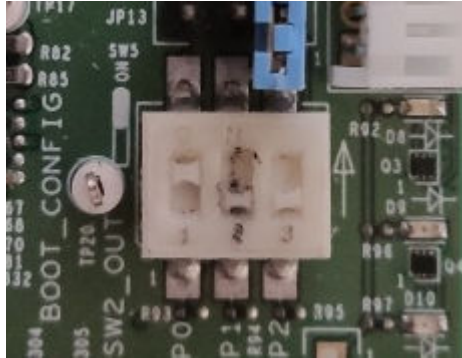

Figure 12. Setting SW5 to 1-ON, 2-OFF, 3-OFF
- Switch the RT685-EVK board to Serial ISP mode by setting SW5 to **1-ON, 2-OFF, 3-OFF**, as shown in Figure 12.